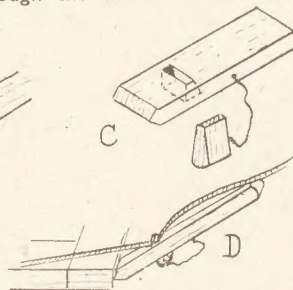

Fig. 3—The webbing stretcher
For this job a webbing strainer will be necessary, to bring the webbing up taut, before tacking it to the wood. A simple home-made form of strainer is shown in Fig. 3 (C), and is well worth making, as it is an invaluable tool for upholstery jobs any time. It is a length of hardwood, $\frac{1}{2}$ in. to $\frac{3}{4}$ in. thick, $3\frac{1}{2}$ ins. wide and about 9ins. long.